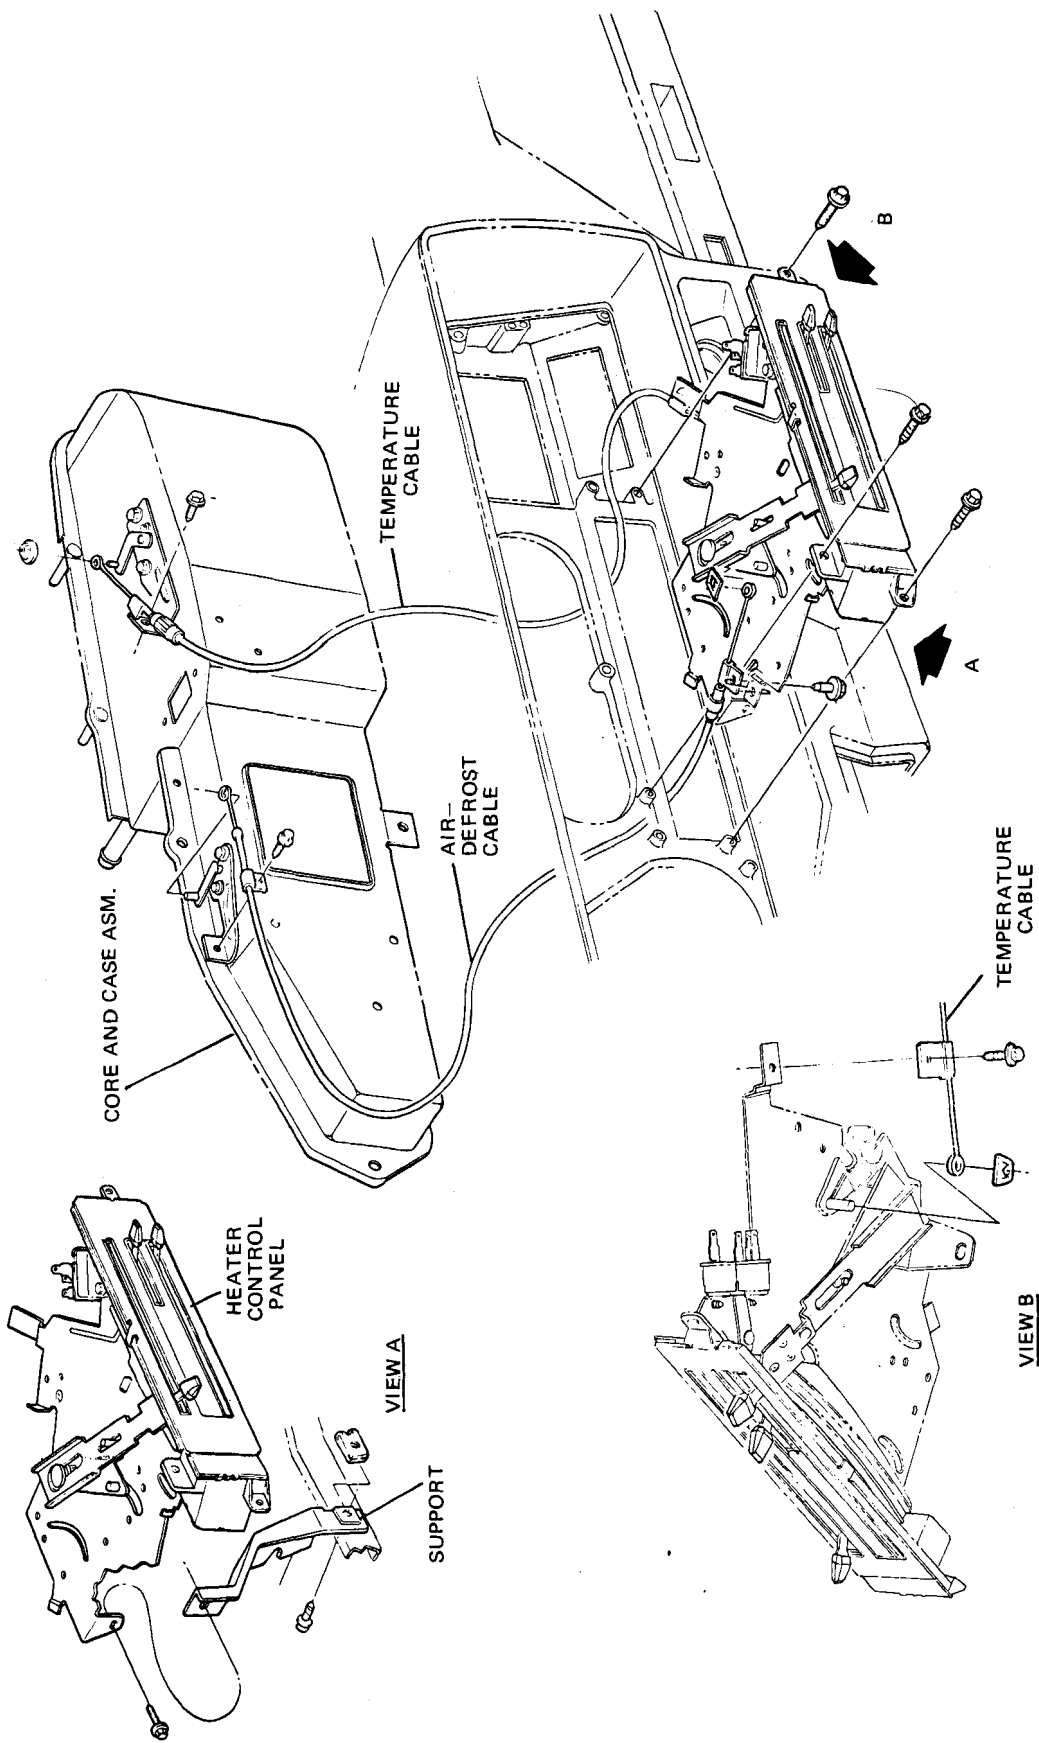

Fig. 1-13 F Series Heater Control Panel and Cables
2. Adjust temperature cable turnbuckle, Fig. 1-13, until temperature door is felt to seat in housing (heater case).
2. While holding control lever in the OFF position, adjust cable turnbuckle (Fig. 1-13) until door seats and air control lever is forced to start to move.
1. Remove retaining nut and screw and disconnect cable from heater case (Fig. 1-13).